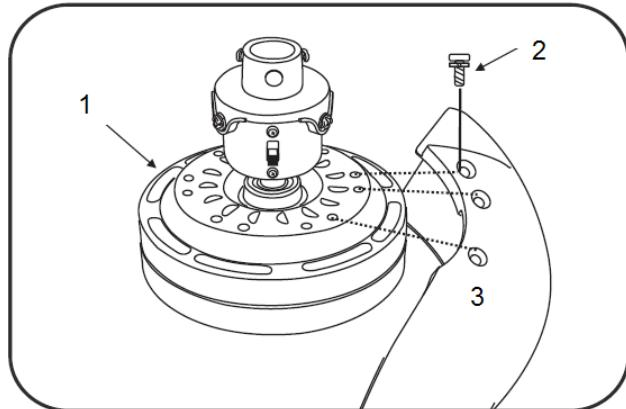

Fig. 7
- Align the 3 holes of the blade (3) to the fan motor (1).
- Secure the blade with 3 blade screws with lock washers (2) provided.
- Follow the same process for the remaining two blades. (Fig.7)